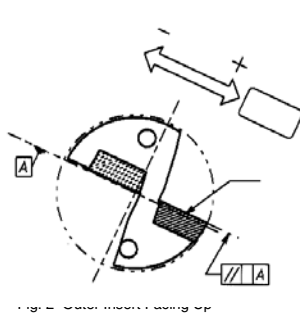
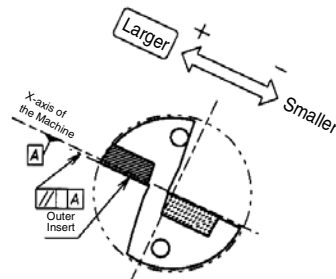

Fig. 2 Outer Insert Facing Up
Fig. 3 Outer Insert Facing Down
- ② For making the hole diameter larger, slide the tool along the X-axis toward the outer insert side. (Fig. 2, Fig. 3)